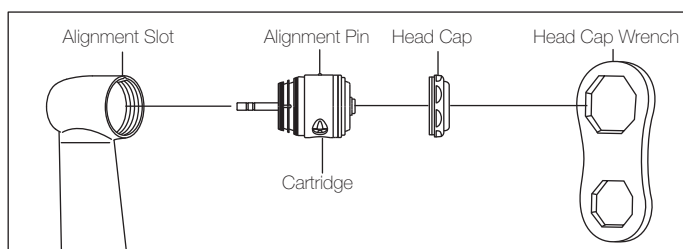

Fig. 7
- Mount the Head Cap. (Fig. 7)